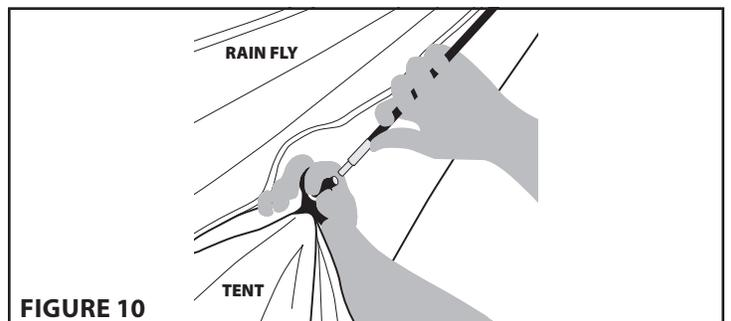

FIGURE 10
3. Starting at one corner, insert the male end of the short poles attached to the rain fly into the female end of the roof pole. Repeat this for all four corners. [ **SEE FIGURE 10** ]